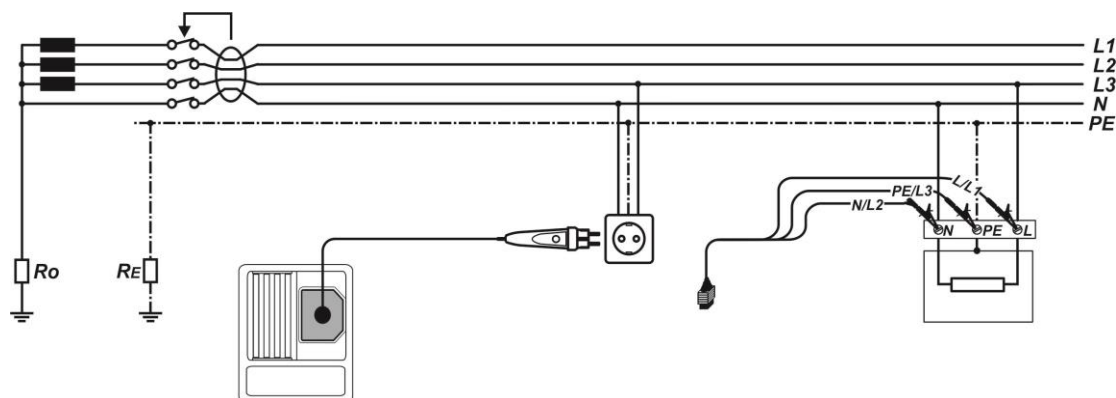

Figure 5.17: Connecting the plug commander and the 3-wire test lead
- ❑ **Connect** test leads to the item to be tested (see *Figure 5.17*).
- Connect** test leads to the item to be tested (see *Figure 5.17*).
<ul style="list-style-type: none"> <input type="checkbox"/> Select the RCD function using the function selector switch. <input type="checkbox"/> Set sub-function to AUTO using UP / DOWN keys. <input type="checkbox"/> Set test parameters (if necessary). <input type="checkbox"/> Connect test cable to the instrument. <input type="checkbox"/> Connect test leads to the item to be tested (see Figure 5.17). <input type="checkbox"/> Press the TEST key to perform the test. 	Start of test